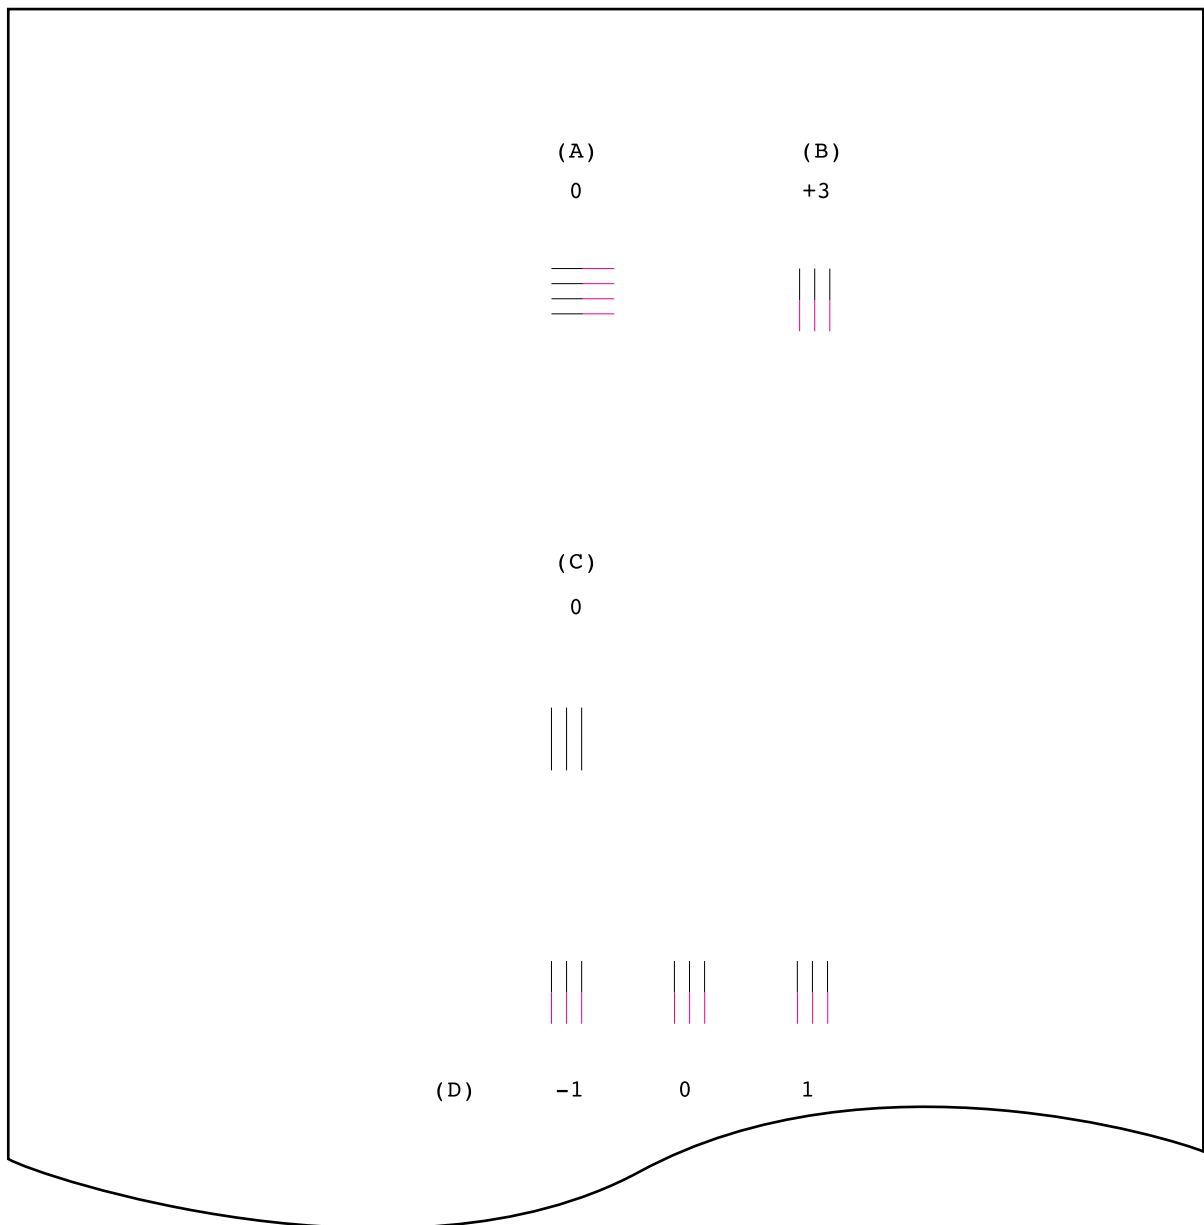

Figure 3-9 Checking the Position of the Print Head (2)
- 4) Follow the instructions on Maintenance Sheet in the printer driver, and print the high-resolution adjustment pattern (*Figure 3-9 Checking the Position of the Print Head (2)* (page 3-7)) .